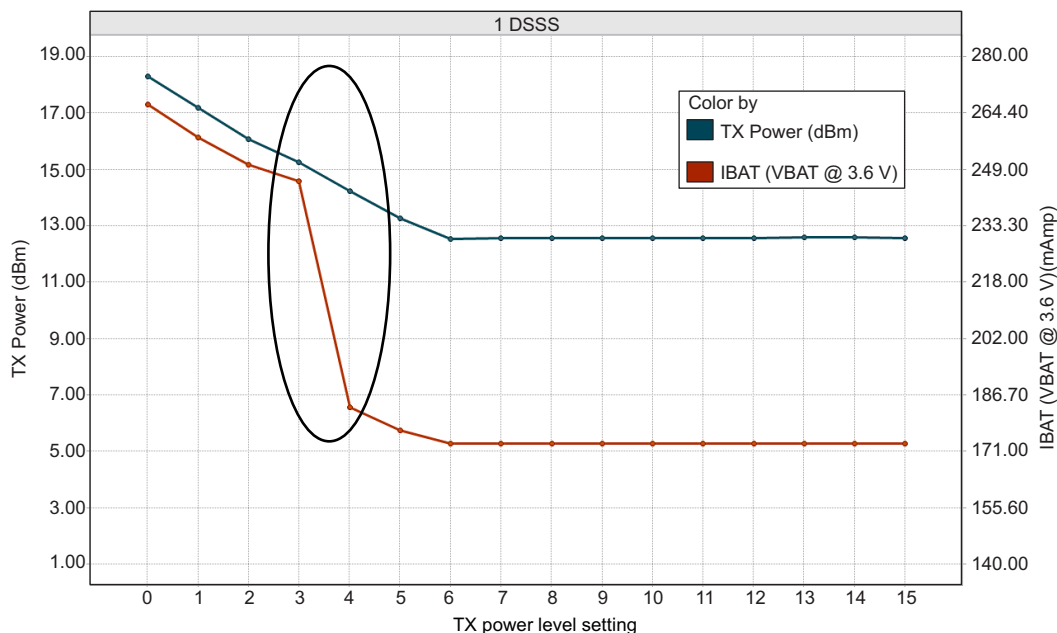
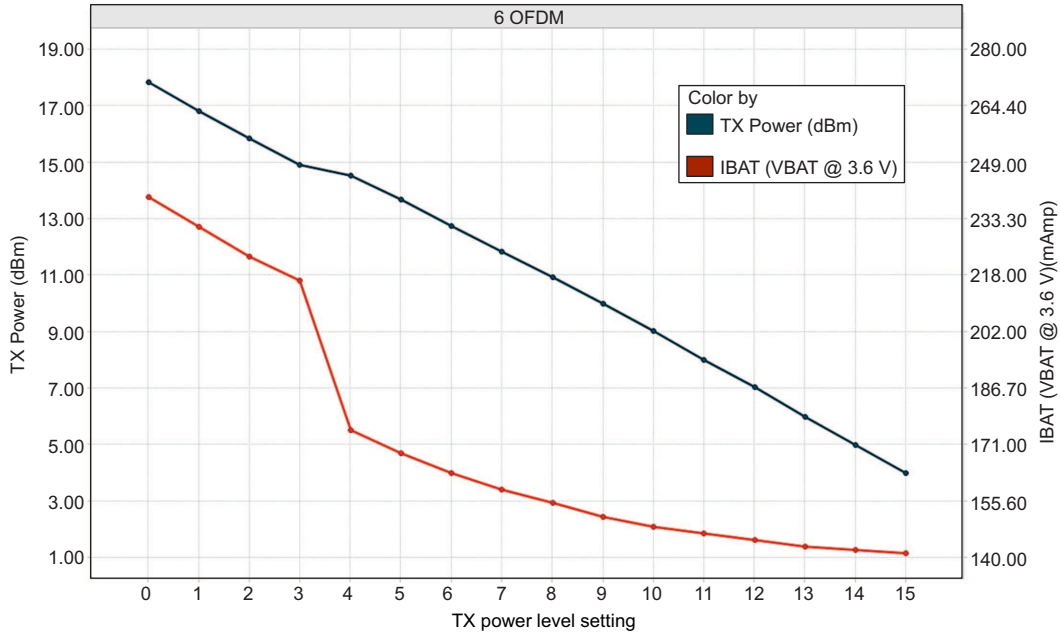
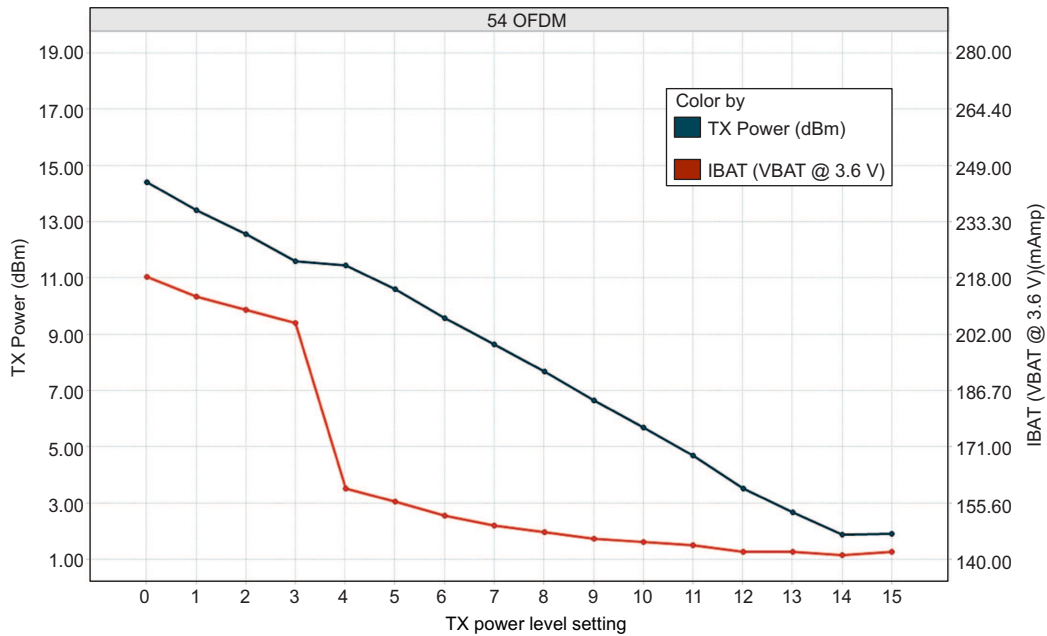

Figure 5-1. TX Power and IBAT vs TX Power Level Settings (1 DSSS)
Figure 5-2. TX Power and IBAT vs TX Power Level Settings (6 OFDM)
Figure 5-3. TX Power and IBAT vs TX Power Level Settings (54 OFDM)
- (1) TX power level = 0 implies maximum power (see Figure 5-1, Figure 5-2, and Figure 5-3). TX power level = 4 implies output power backed off approximately 4 dB.
- (2) The CC3135 system is a constant power-source system. The active current numbers scale based on the  $V_{\text{BAT}}$  voltage supplied.
- (3) The RX current is measured with a 1-Mbps throughput rate.
- (4) DTIM = 1
- (5) The complete calibration can take up to 17 mJ of energy from the battery over a time of 24 ms. In default mode, calibration is performed sparingly, and typically occurs when re-enabling the NWP and when the temperature has changed by more than  $20^\circ\text{C}$ . There are two additional calibration modes that may be used to reduced or completely eliminate the calibration event. For further details, see CC31XX SimpleLink™ Wi-Fi® and IoT Network Processor Programmer's Guide.
- (5) The complete calibration can take up to 17 mJ of energy from the battery over a time of 24 ms. In default mode, calibration is performed sparingly, and typically occurs when re-enabling the NWP and when the temperature has changed by more than  $20^\circ\text{C}$ . There are two additional calibration modes that may be used to reduced or completely eliminate the calibration event. For further details, see CC31XX, CC32XX SimpleLink™ Wi-Fi® and IoT Network Processor Programmer's Guide.
Figure 5-1, Figure 5-2, and Figure 5-3 show TX power and IBAT versus TX power level settings for the CC3135 device at modulations of 1 DSSS, 6 OFDM, and 54 OFDM, respectively.
In Figure 5-1, the area enclosed in the circle represents a significant reduction in current during transition from TX power level 3 to level 4. In the case of lower range requirements (14-dBm output power), TI recommends using TX power level 4 to reduce the current.